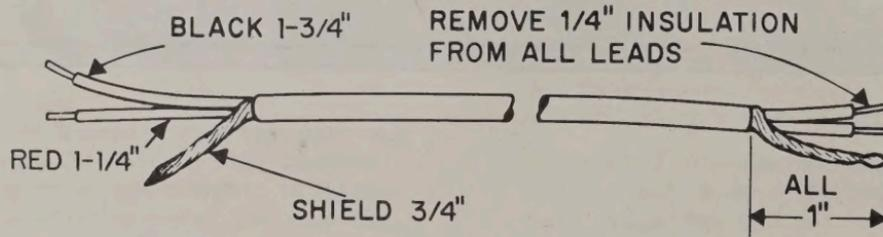

FIGURE 2. CABLE PREPARATION
- Prepare the ends of the cable as shown in Figure 2. Connect the end of the cable having the longest shield lead as follows: